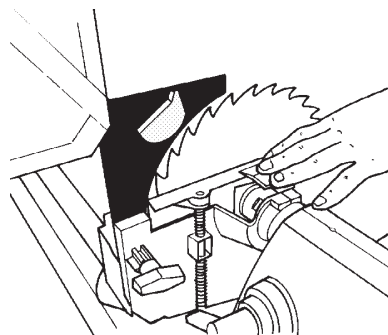
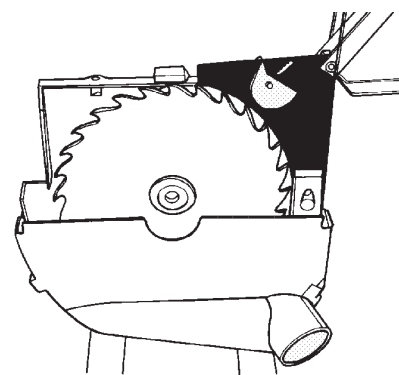
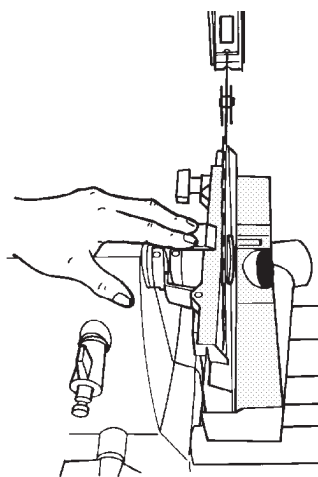

Figure C-67
Figure C-68
Figure C-69
83. Make sure the riving knife is fully seated between the guard and the lock plate, as in Figure C-67. The curved portion of the riving knife should be very close to the saw blade teeth (about 1/8"), as illustrated in Figure C-68. Tighten the guard lock knob (210). Look to see if the riving knife is centered with the saw blade, as shown in Figure C-69.